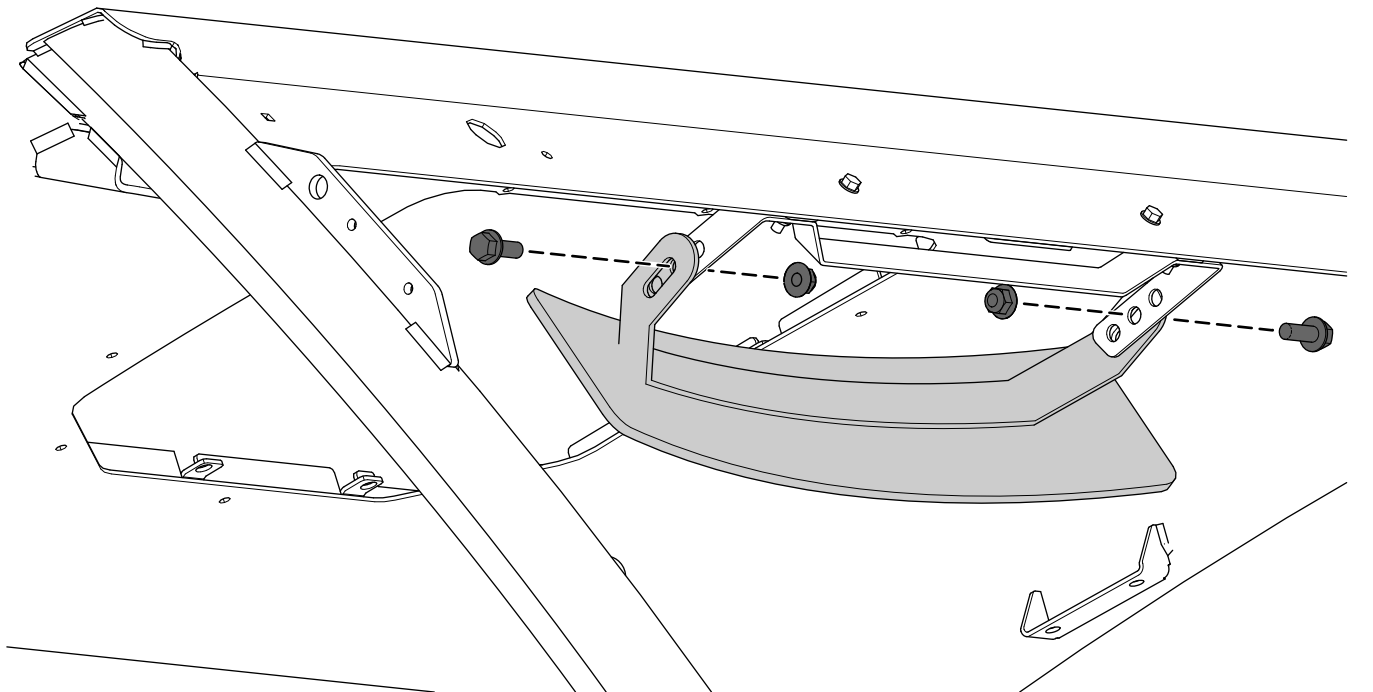

Figure 8
3. Secure the wide-angle mirror to the mirror-mount assembly using 2 flange-head bolts (3/8 x 1 inch) and 2 locknuts (3/8 inch) as shown in Figure 8.